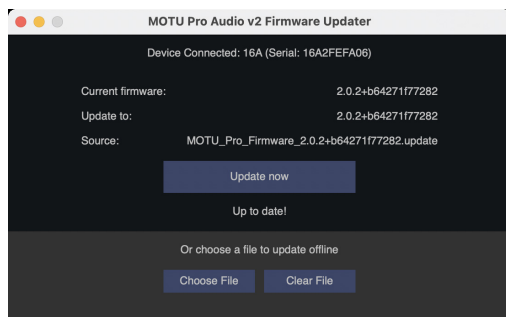

Figure 6-10: The 16A Firmware Updater app.
☛ This step requires that the unit already has firmware version 2.1.5 or later. If not, use the Firmware Updater app (Figure 6-10 on page 52), accessed from the File menu.
- 1 Choose *File menu > Open Firmware Updater* to launch the updater app (Figure 6-10).
- 3 Once the firmware image is loaded, click the *Update Now* button (Figure 6-10).